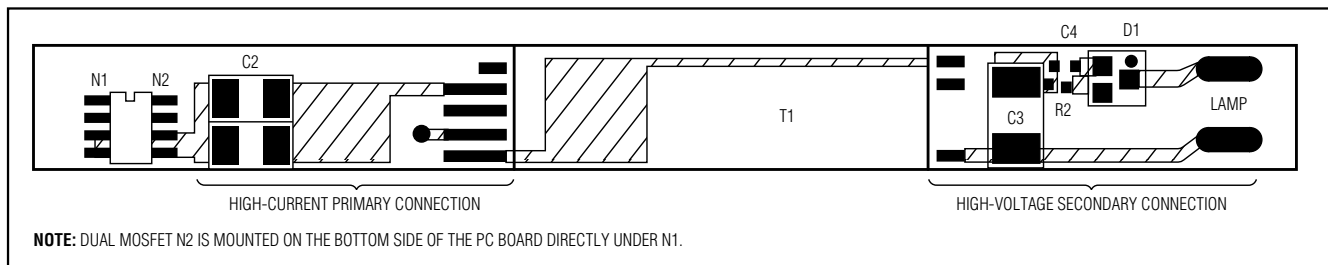

Figure 13. Layout Example
Careful PC board layout is critical to achieve low switching losses and clean, stable operation. The high-voltage and switching-power stages require particular attention (Figure 13). The high-voltage sections of the layout need to be well separated from the control circuit. Most layouts are constrained to long narrow PC boards, so this separation occurs naturally.
- 8) The traces to the capacitive voltage-divider on the transformer's secondary need to be widely separated to prevent arcing. Moving these traces to opposite sides of the board can be beneficial in some cases (Figure 13).